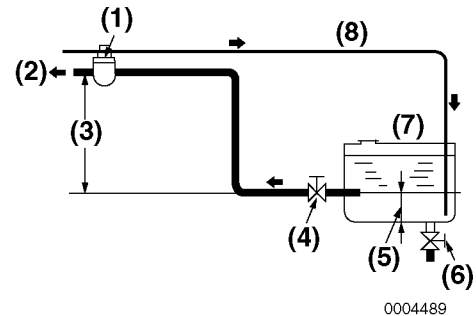

Figure 3-48
Shown is a typical installation of a boat fuel system. Fuel supply (**Figure 3-48, (2)**) and return (**Figure 3-48, (8)**) lines connect to fittings at the engine.
Install a drain cock (**Figure 3-48, (6)**) at the bottom of the fuel tank to remove water and contaminants.